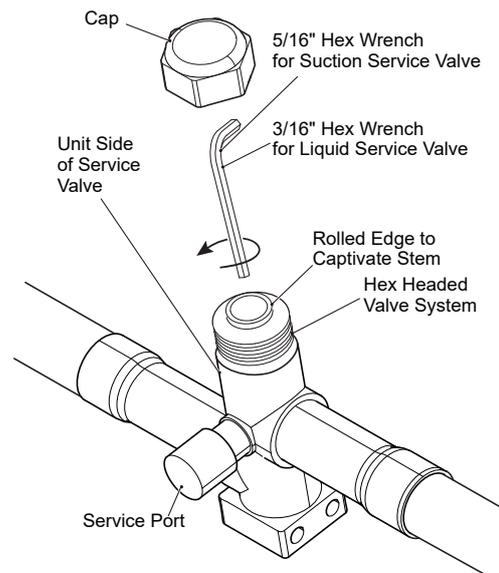

Figure 12-1
1. Remove Service Valve Cap (Figure 12-1).
2. Fully insert hex wrench into the stem and back out counterclockwise until valve stem just touches the rolled edge (approximately five (5) turns.)